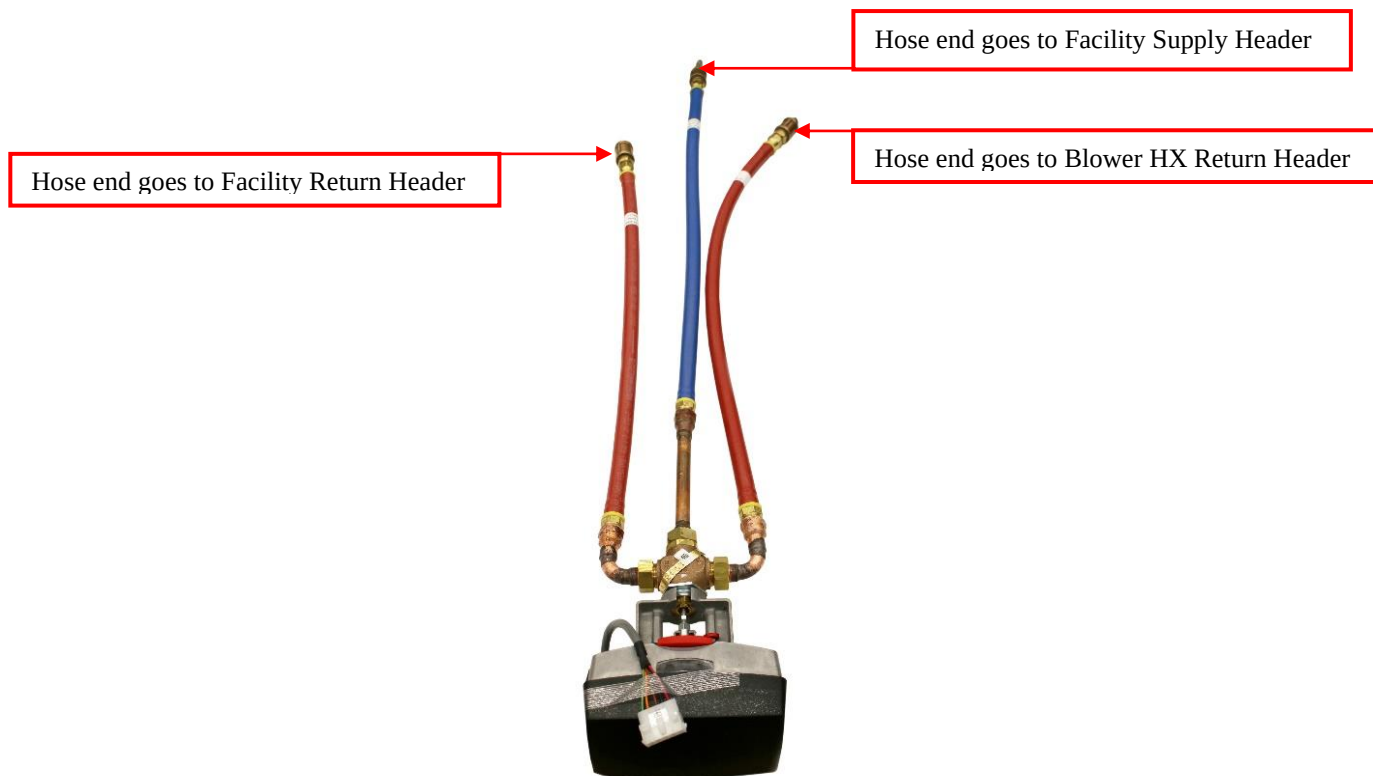

Figure 15 Blower Mixing valve detail showing ports A, B, and AB for reference
- a. Refer to Figure 15 below for port locations for the mixing valve.
- a. Refer to Figure 15 for port locations for the mixing valve.